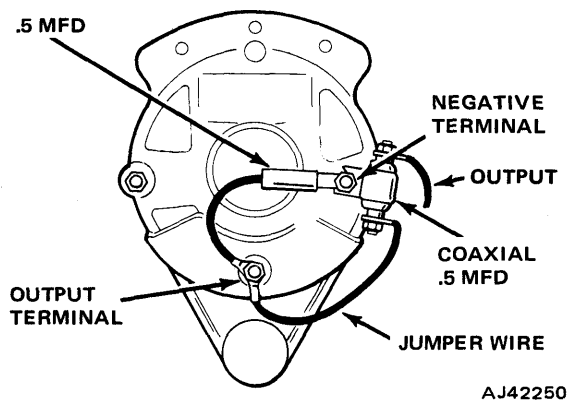

Fig. 3-93 Alternator Noise Suppression
- (1) Install coaxial capacitor rated at 0.5 to 2 mfd from alternator output terminal to ground (fig. 3-93).
- (2) Install coaxial capacitor in alternator output wire (fig. 3-93).